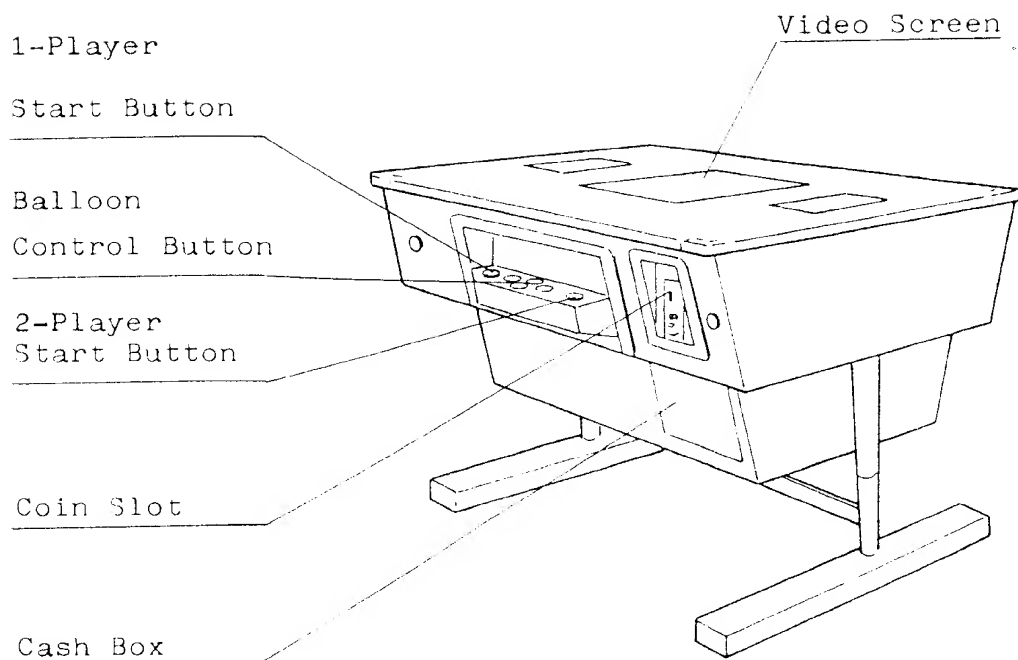

Fig. 1
1. Name of Part (See Figs. 1 and 2)